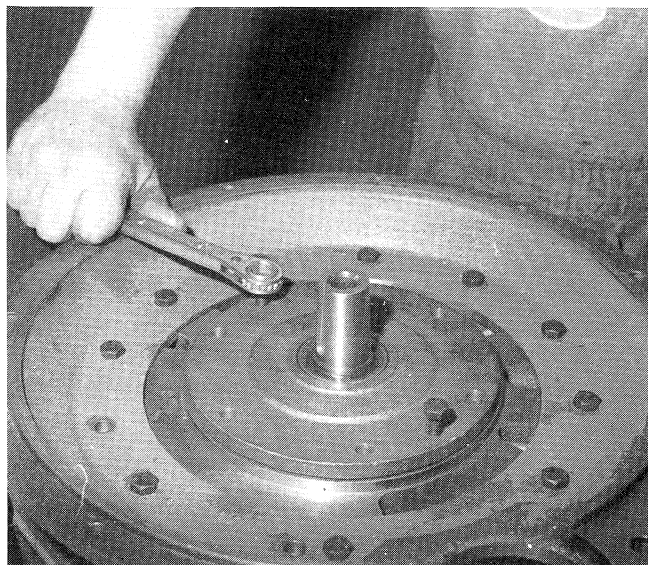

Figure 6-2. Using Pusher Screws to remove Input Bearing Support.
8. Remove capscrews (Figure 12-2, 12) and use two of the capscrews as pushers in the threaded holes in bearing support (7) to remove the bearing support. See Figure 6-2.